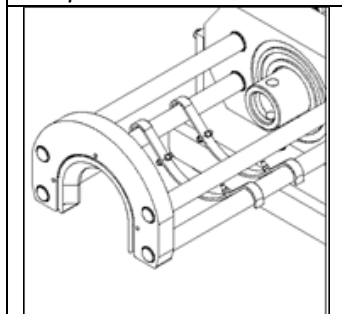

Figure 22 – Pulling Frame Placement
- 5.3.7 Place the Installing Tube Cradles between the lower arms of the Pulling Frame (Figure 22).